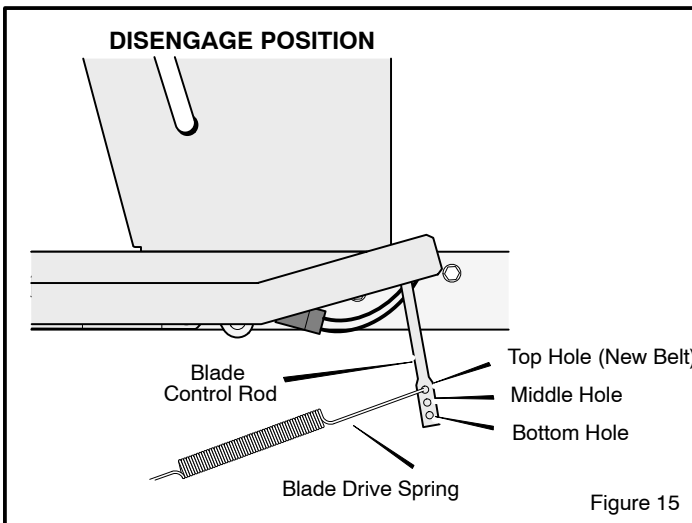

Figure 15
5. Disconnect the **blade drive spring** from the **blade control rod**. Move the **blade drive spring** to the *middle hole* (Figure 15). This will increase the tension on the **mower drive belt**.
12. If you replace the **mower drive belt**, move the **blade drive spring** to the *top hole* (Figure 15).